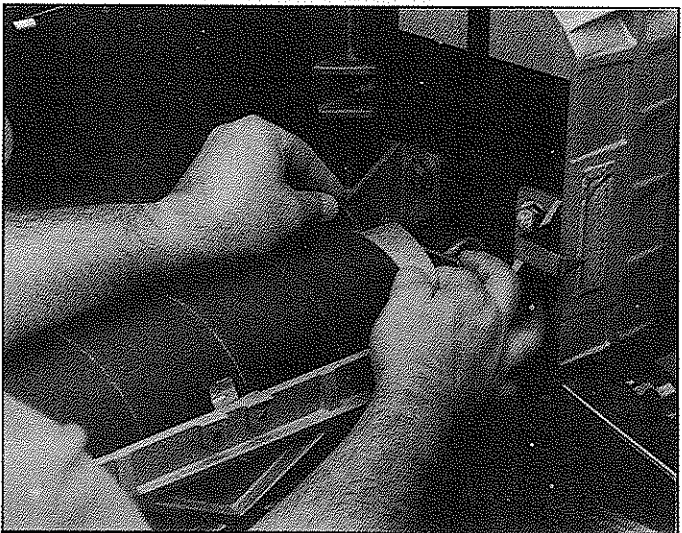

Figure 19
4. When you have completely wrapped the drum, keep tension on the strip and insert the remaining tapered end of the strip into the slot in the drum. Using your right hand, raise the tensioner clip completely to open the jaws. Insert the tapered end of the abrasive strip, and release the tensioner clip to secure the abrasive strip (Figure 19). The tensioner clip will secure and tension the abrasive strip during use and will hold tension in the event the strip stretches during use. If the abrasive strip is not tightly captured, the tensioner clip was not raised sufficiently to open the jaws properly before inserting the abrasive strip.